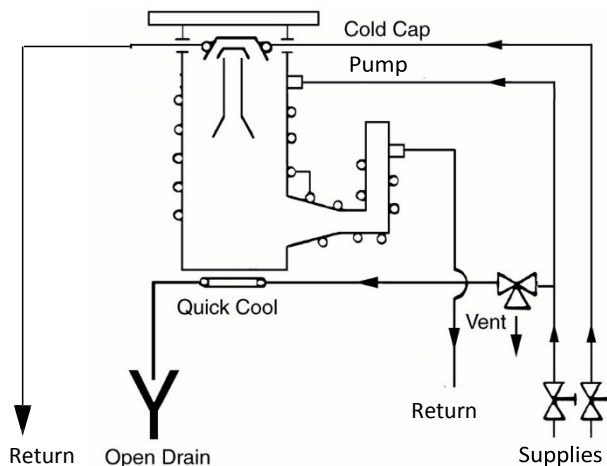

Figure 12 HS-32/NHS-35 Cooling Water Connections
- 1 Connect all body and foreline cooling in series except the Quick Cool coil. Connect the Cold Cap cooling coil separately (Figure 12). Refer to Table 4 for the cooling water flow rate. Higher flows will not harm the pump.